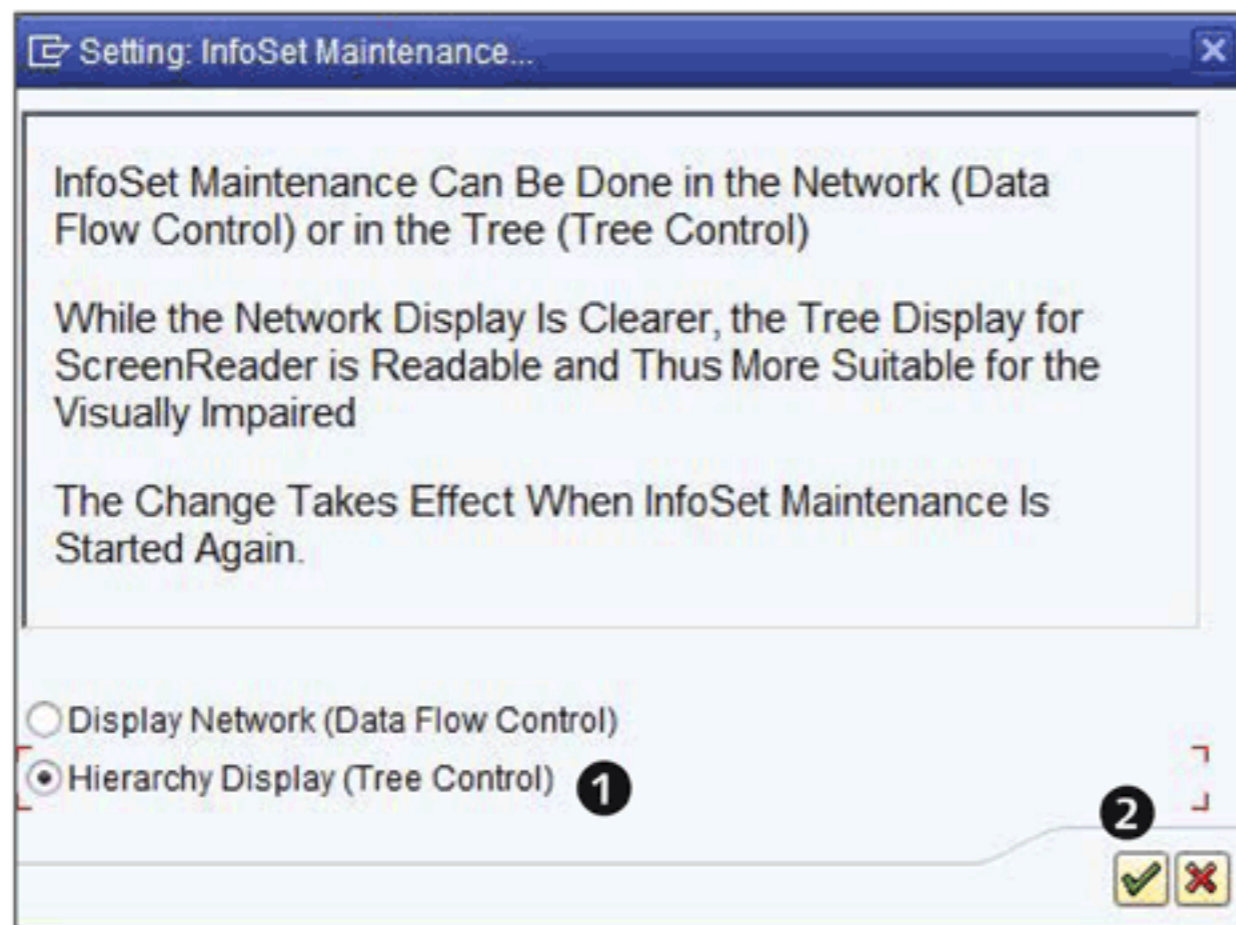

Figure 6.29 Changing the InfoSet Maintenance Screen Setting
So far we've seen the network display. You can change between the two settings by using the menu path **SETTINGS • DISPLAY**. The **SETTING: INFOSET MAINTENANCE** box appears, as shown in Figure 6.29. Select the **HIERARCHY DISPLAY (TREE CONTROL)** radio button (1). Click on the **CONTINUE** icon (2).